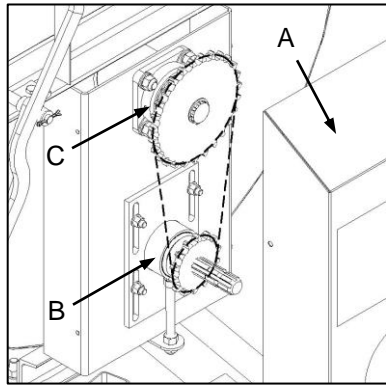

Fig. 3
- ✔ Remove the protective cover (Fig. 3-A) to expose the chain drive mechanism.
- ✔ Using a grease gun, apply grease to the input shaft and main shaft bearing units (Fig. 3-B/C)
- ✔ Verwyder die beskermende skermplaat (Fig. 3-A) om die kettingaandrywingsmeganisme bloot te stel.
- ✔ Gebruik 'n ghriesspuit om die insetas- en hoofskoeëllaereenheede te ghries (Fig. 3-B/C).